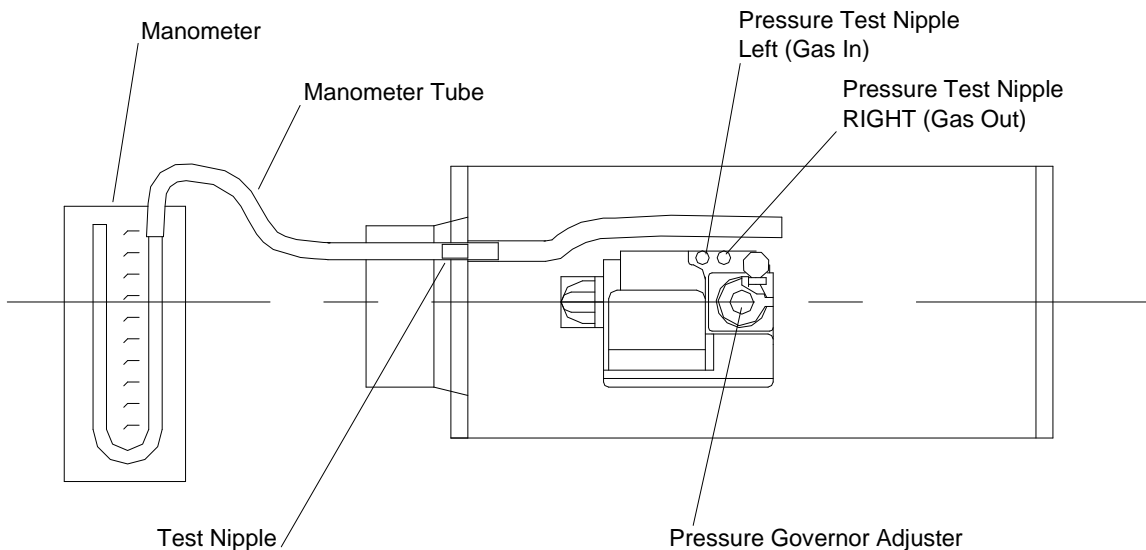

Fig. 26
- 5.3.2 Connect a manometer to the test nipple protruding from the rear panel of the Control Box (adjacent to the Air Inlet Adaptor) see Fig. 26.
- 5.3.4.1 Unscrew the sealing screw (two turns) of the LEFT (Gas IN) Control Valve test nipple and connect the free end of the manometer tube (permanently connected to the manometer test nipple inside the rear panel of the control box) to this test nipple (See Fig. 26). Close the control box door and secure with the two toggle latches.
5.3.5.1 Unscrew the sealing screw (two turns) of the RIGHT (Gas OUT) Control Valve test nipple and connect the free end of the manometer tube (permanently connected to the manometer test nipple inside the rear panel of the control box) to this test nipple (See Fig. 26). Close the control box door and secure with the two toggle latches.
5.3.5.3 In the event that the burner setting pressure is incorrect, switch off the electricity supply to the appliance and remove the cap from the integral pressure governor for the Control Valve. Close the control box door and switch on the electricity supply to the appliance to ignite the burner. Remove the plug from the boss in the upper surface of the control box door and insert a suitable screwdriver through the exposed hole in the box to locate the governor adjusting screw. Adjust the pressure by turning the pressure governor adjusting screw clockwise to increase or anti-clockwise to decrease the burner setting pressure. See Fig. 26.